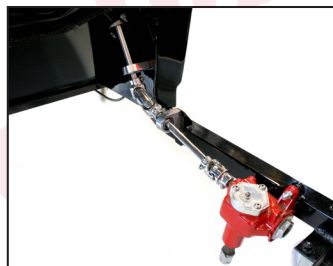

Figure 3
2. Attach the column to the mount using two steering column drops. Holes have been provided on the under dash mount to allow you to adjust the position of the column drops to where you see fit. The bigger the difference in length between the two drops, the greater the angle of the column will be. *(Figure 3)*